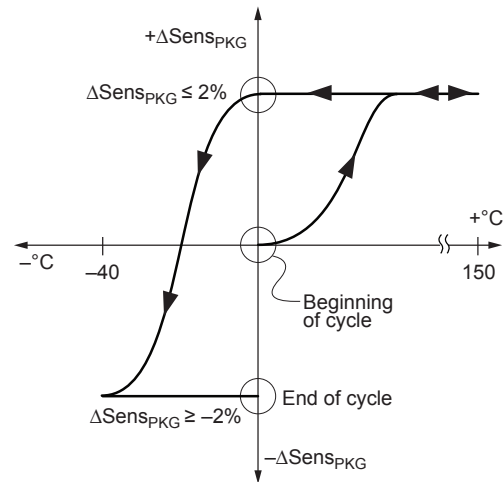

Figure 7: Package Hysteresis Sensitivity Drift During Temperature Cycling
**Sensitivity Drift Due to Package Hysteresis:** Package stress and relaxation can cause the device sensitivity at  $T_A = 25^\circ C$  to change during and after temperature cycling. This change in sensitivity follows a hysteresis curve, shown in Figure 7. For purposes of specification, the Sensitivity Drift Due to Package Hysteresis,  $\Delta Sens_{PKG}$ , is defined as: